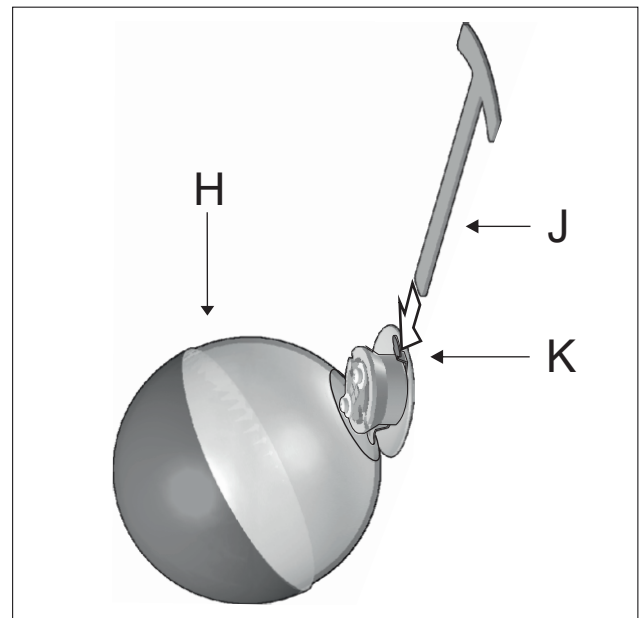

Figure 9a
9 - Hold the screen (H) with one hand. Simultaneously press the other extreme of the clip (K) with the supplied tool (J) with the other hand. Figure 9a.